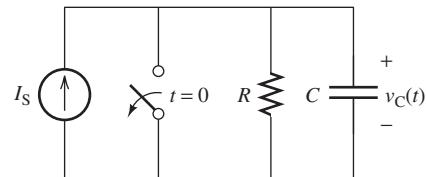

FIGURE P5.11 Circuit for Problem 5.11.
- 5.11** (A) Find an expression for power absorbed/consumed by the capacitor in Figure P5.11.